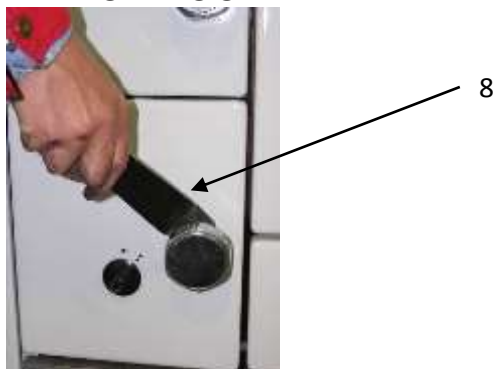

Fig. 2
In case of overheating of the firebox door handle, opening and closing of the firebox door is possible with a special key, found in existing accessories (Fig. 2, item 8).